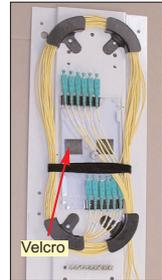

Fig. 28
- Unlatch the velcro strap, then unwrap and remove the simplex pigtails from the feeder plate on the right hand side of the rear of the cabinet (Fig. 28).